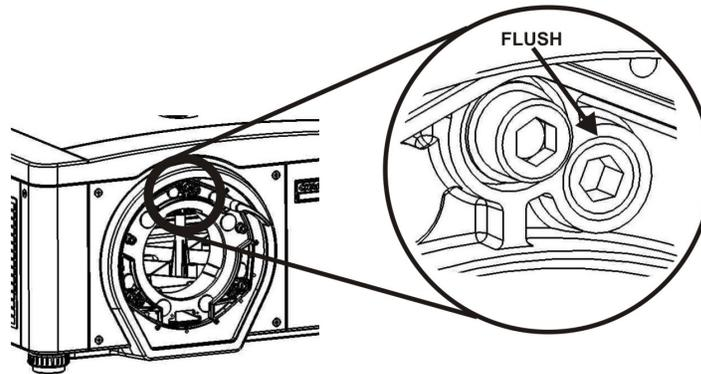

FIGURE 2-15 POSITION SETSCREW FLUSH
9. The original factory boresight can be recovered approximately by positioning the 3 setscrews, see *Figure 2-14 Screw Locations*. Position the setscrews flush with the front face of the lens mount plate and in contact with the inner lens mount plate, see below *Figure 2-15 Position Setscrew Flush*. This may require adjusting both setscrews and capscrews.